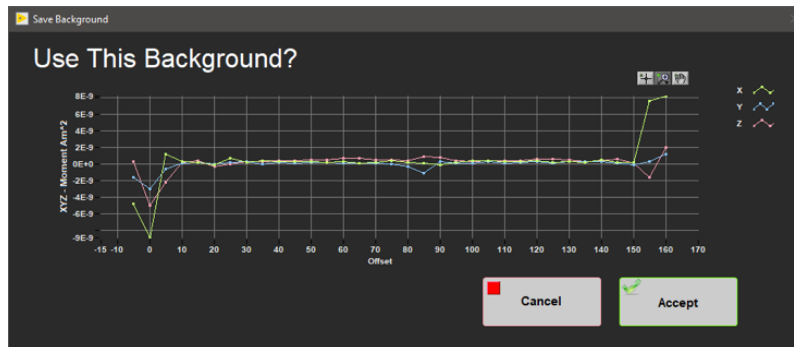

Figure 12- Background Confirmation Window
- When the process is complete the user will be prompted to **ACCEPT** and save background data (Figure 12). If the background data looks suspect (high values or peaks), select **CANCEL**.